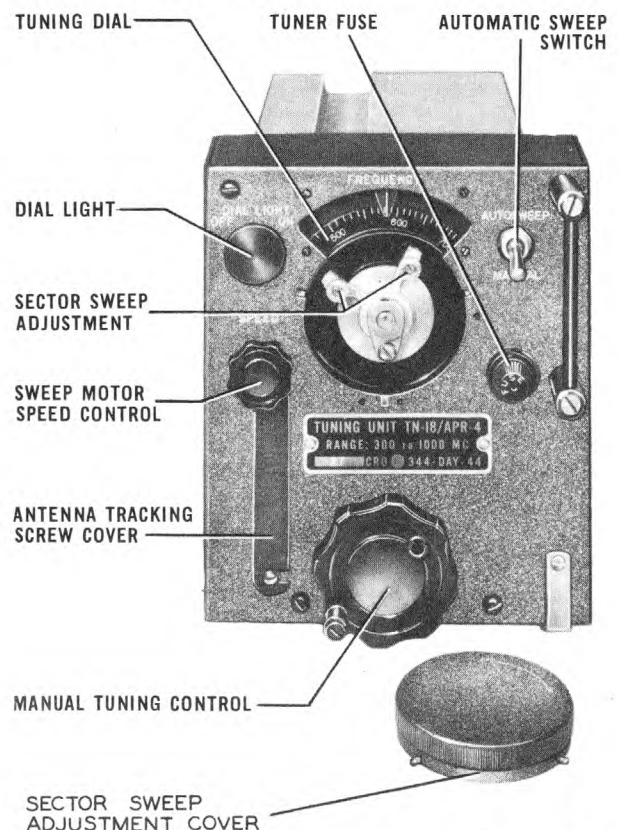

Figure 3-1. Tuning Unit TN-18/APR-4—Front View with Sector Sweep Cover Removed
2. Set the two knurled screws under the cover to the ends of the frequency band to be swept. (See fig. 3-1.)